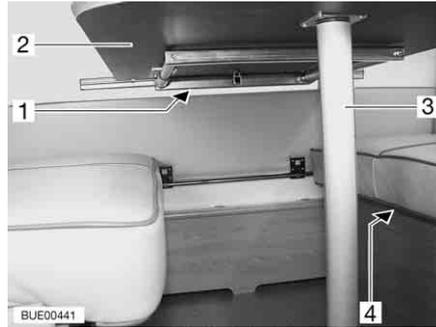
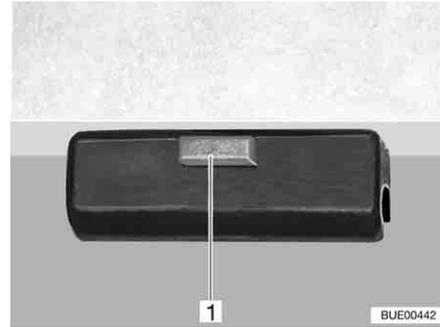

Fig. 80 Conversion to bed
Fig. 81 Lock
- Slightly raise the front of the table-top (Fig. 80,2).
- Remove table leg (Fig. 80,3) and lay it aside.
- Press the release knob (Fig. 81,1) on the lock (Fig. 80,1).
- Place the table-top in the holders (Fig. 80,4) on the bench seats.